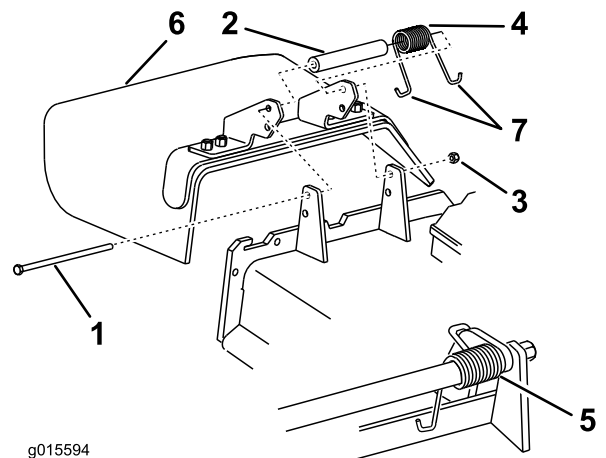

Figure 104
1. Remove the locknut, bolt, spring, and spacer holding the deflector to the pivot brackets (Figure 104).
2. Remove the damaged or worn grass deflector (Figure 104).
Note: Make sure that 1 J-hook end of the spring is installed behind the deck edge before installing the bolt as shown in Figure 104.
- Place 1 J-hook end of the spring around the grass deflector (Figure 104).